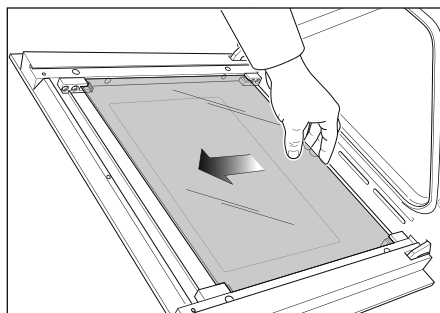

Fig.36b
- Gently unlock the middle pane of glass from the bottom clamps by moving it as in Fig. 36b.